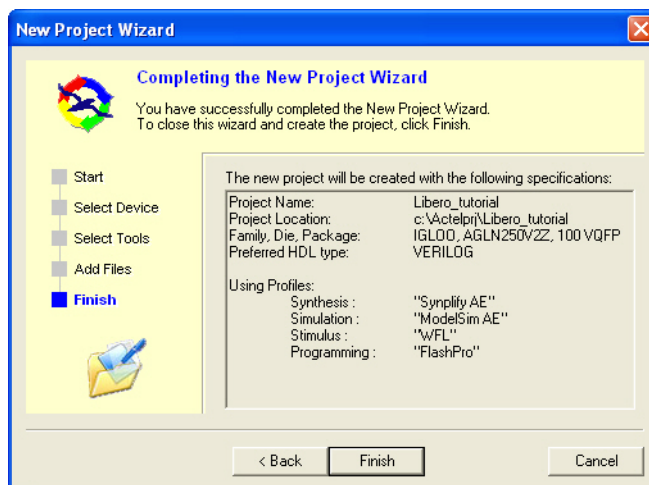

Figure 1-5 • Review Your Project Settings
7. Review your project information (Figure 1-5). Click **Back** to return to any step of the Wizard and correct information in your project. Click **Finish** to close the Wizard and create your new project.